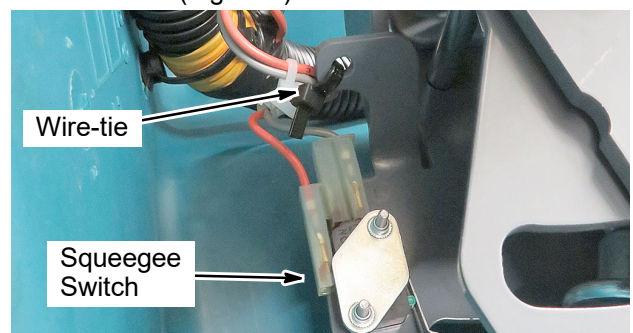

Fig. 9
- Reconnect the squeegee switch wiring and secure with wire-tie (Figure 9).